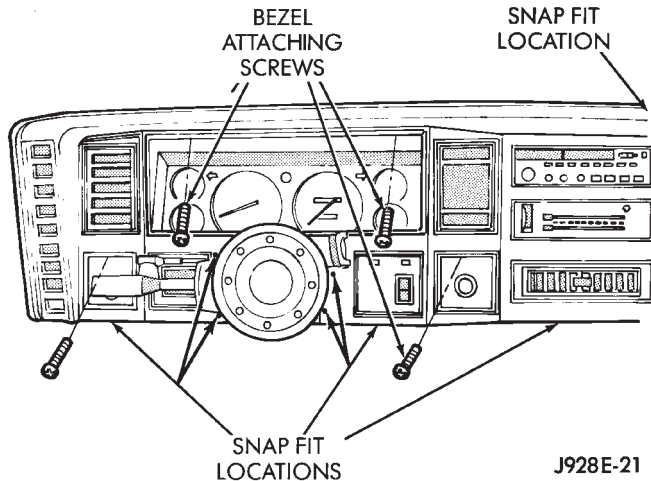

Fig. 1 Instrument Bezel Removal/Installation
- (1) Disconnect negative cable from battery.
- (2) Remove instrument panel bezel attaching screws (Fig. 1) and remove the bezel.